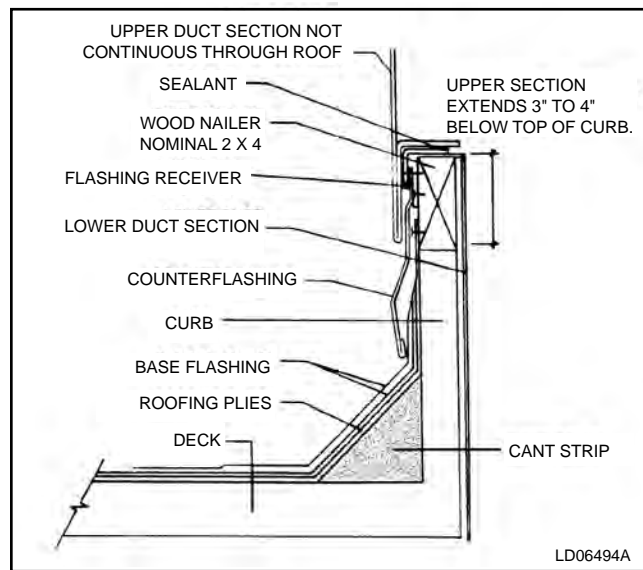

FIG. 2-96 – DUCT PENETRATION OF ROOF
- Roof penetrations by ducts should utilize counter flashed curbs. (Typical arrangements are shown in Fig. 2-96.)